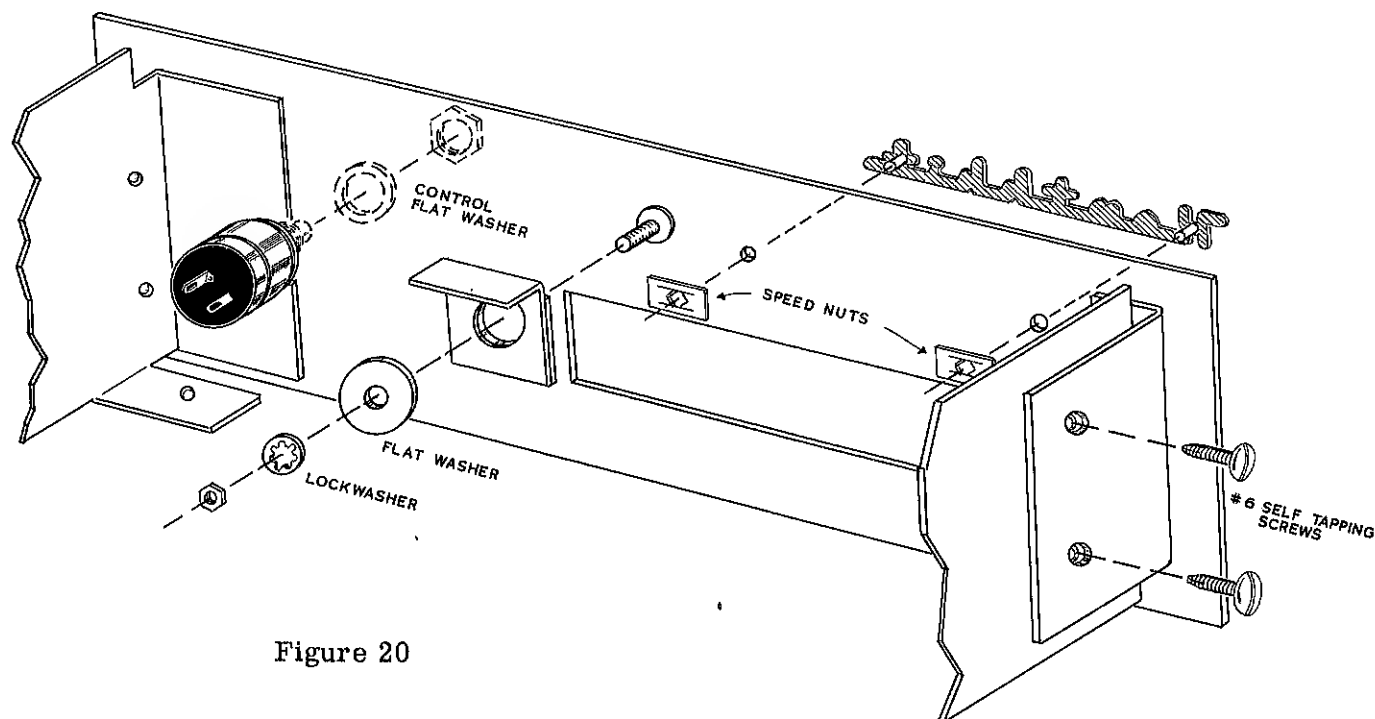

Figure 20
- ( ) Place the panel reinforcing bracket over the stud at the center of the front panel, as shown in Figure 20. The stud goes through the bracket, a large 9/16" flat metal washer, a lockwasher and nut. Tighten in place with the bracket flange slightly below and parallel with the top of the panel. Note: Avoid bending the front panel during construction and installation of the tuner, for the glass will crack under excessive strain.
- ( ) Install the top cover. Before sliding in place, engage the free grommet previously installed on the line cord in the slot provided at one end of the cover. Engage the front lip of the cover with the panel clamp as shown in Figures 20 and 22 and let the cover down until the bottom flanges rest on the bottom cover. Fasten in place by inserting two 6-32 self-tapping screws through the two small holes in the top rear flange of the shell. These screws will pass through slots in the rear panel and thread into the end brackets.